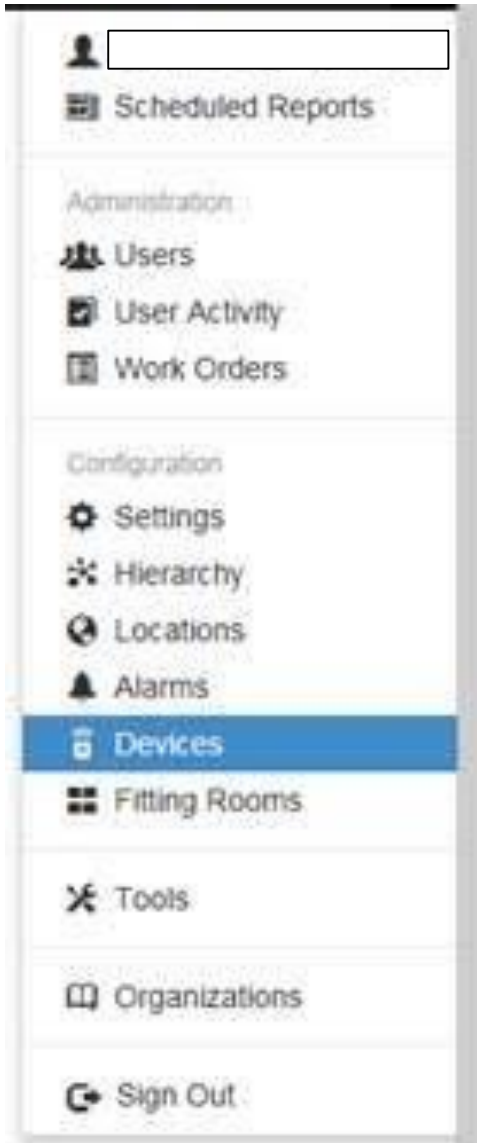

Figure 1
- 2- Select Devices from the “...” drop down (see Figure 1)